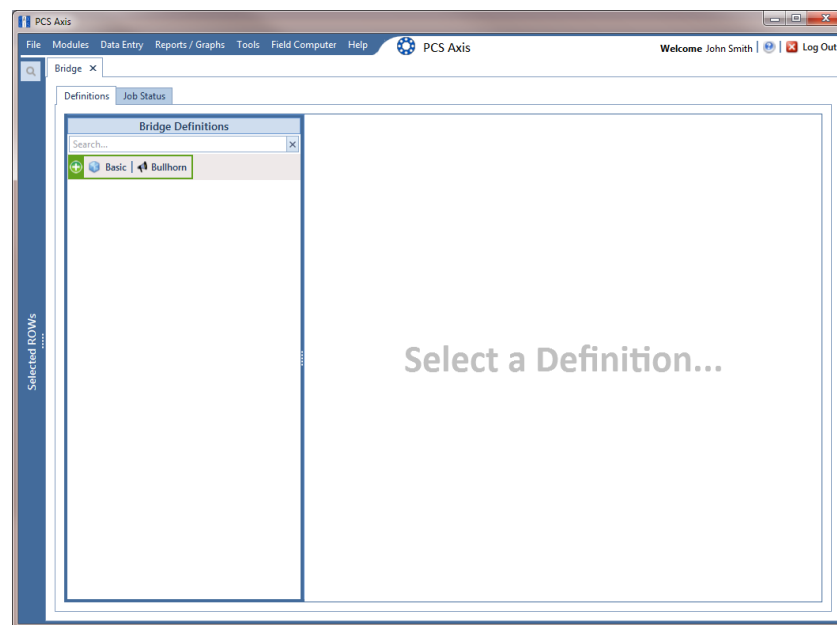

Figure 10-12. Bridge Import Definition
- 2 Click **Tools** > **Bridge** to open the *Bridge* window (Figure 10-12).